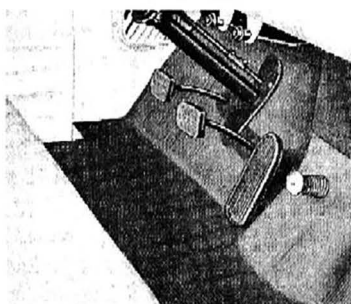

Fig. 9—Control Pedals
**Starter Control.** A starter pedal is located near the center of the toe board to the right of the accelerator pedal on most truck models (fig. 9). Ignition key starting is provided on Forward Control, L.C.F. and automatic transmission equipped models.
**Accelerator Pedal.** The accelerator pedal, located to the left of the starter pedal (fig. 9), is used to open and close the carburetor throttle valve.
**Clutch Pedal.** On models equipped with 3-, 4- and 5-speed transmissions the clutch pedal is conveniently located for use by the driver's left foot (fig. 9). It is used to engage and disengage the clutch, thereby connecting the engine to or disconnecting it from the transmission and drive line to rear wheels.
**Brake Pedal.** The brake pedal is located to the right of clutch pedal (fig. 9). Depressing this pedal applies the hydraulic service brakes at all four wheels in proportion to the pressure applied on the pedal.